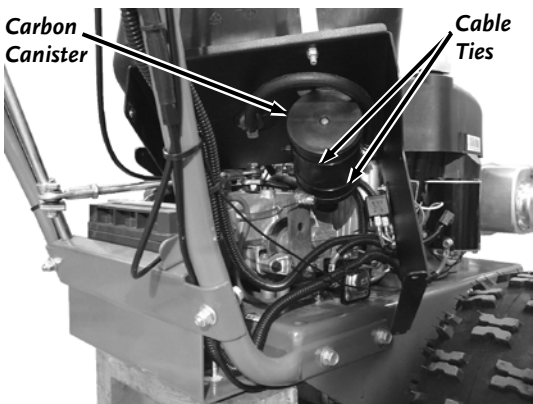

Figure 40
4. Reposition the Fuel Tank and Mount to gain access to the Carbon Canister (**Figure 40**)